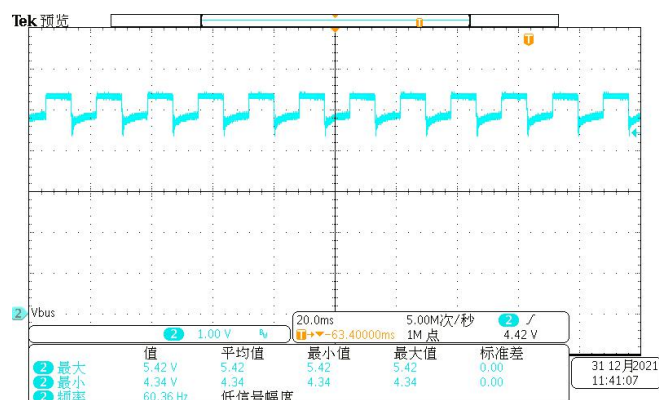

Figure9. 0%~100%-0% load , 60Hz test wave
5. Set the electronic load to dynamic load test mode, and set the relevant load parameters, perform the test result of figure9 & figure10 .